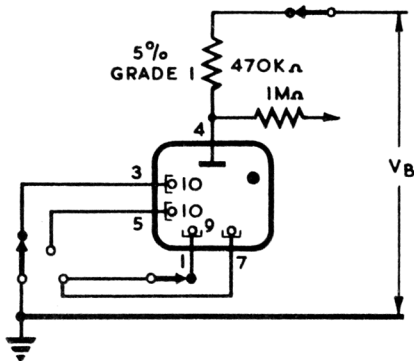

Fig. 2
3. With rectangular pulse drive at high speeds this guide bias must be maintained, e.g. by D.C. restoration. The test circuit of fig. 2., page 4, is applicable.
4. The K1-9 1st guide and 2nd guide electrodes will be successively earthed through a suitable make before break type switch to cause 30 gaps to conduct in turn. The running voltage across each gap shall be within the specified limits. For this test the K0 and K1-9 electrode will be commoned. The test circuit to fig.2 page 4 is applicable. The measurement of the running volts is to be made between 0.1 and 2.0 seconds after the contacts of the make before break type switch have broken.